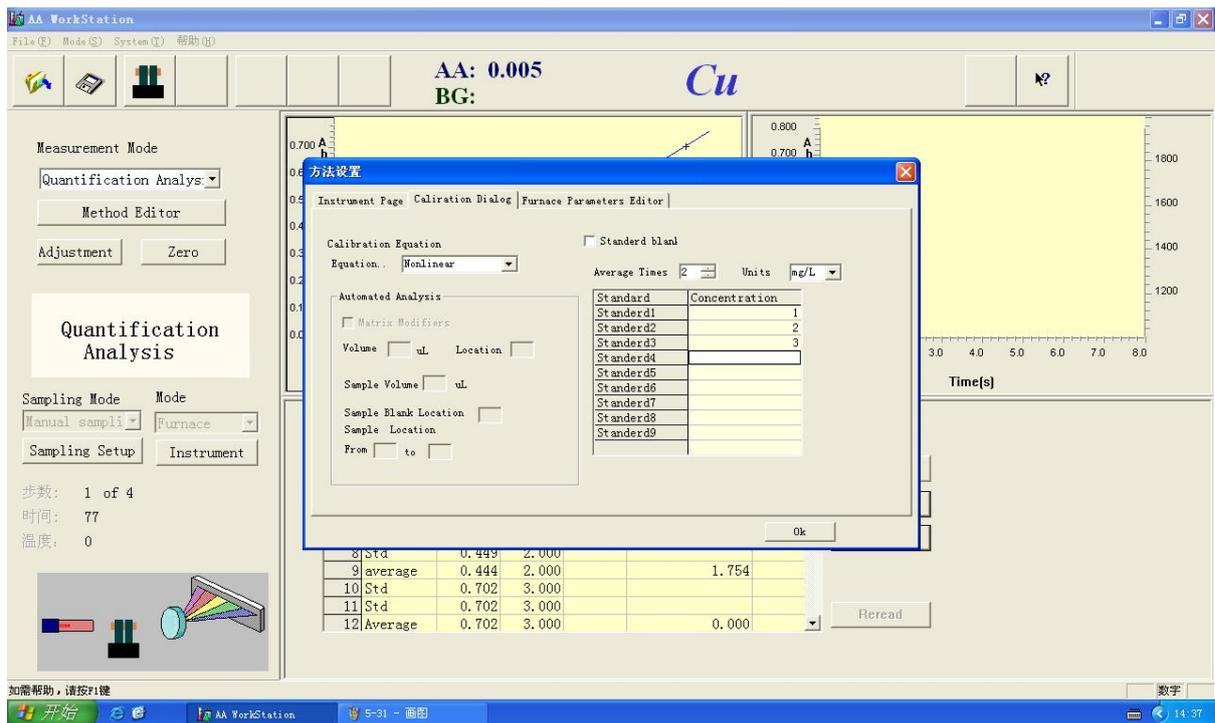

Figure 5-32
5. Select the "Nonlinear" in the "Calibration Equation", figure 5-32